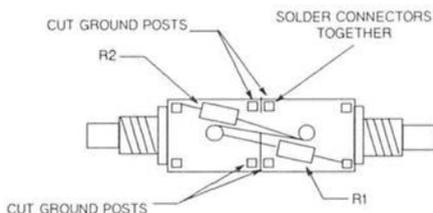

FIGURE 5-4. REPLACEMENT CALIBRATION LOAD
5. A resistor lead or buss wire must be connected between the two center posts and soldered as shown in Figure 5-4.